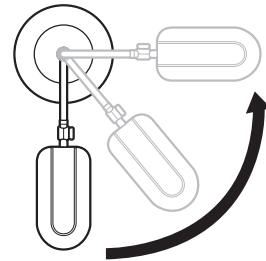

Fig. 4
2. To rotate the lamp head right or left, loosen height adjusting collar, swing lamp arm to desired position. Tighten collar. Lamp arm rotates a full 360° (Fig. 4).